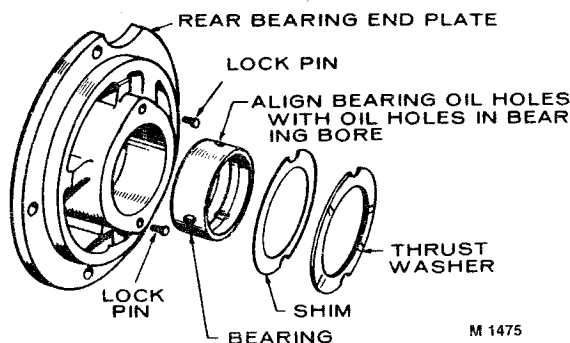

FIGURE 84. REAR BEARING
**Rear Bearing:** Use the combination main and cam bearing driver and a hammer to install the rear main bearing. Drive the bearing into the bearing plate from the inner side (see Figure 84) to the depth allowed by the flange on the driver.